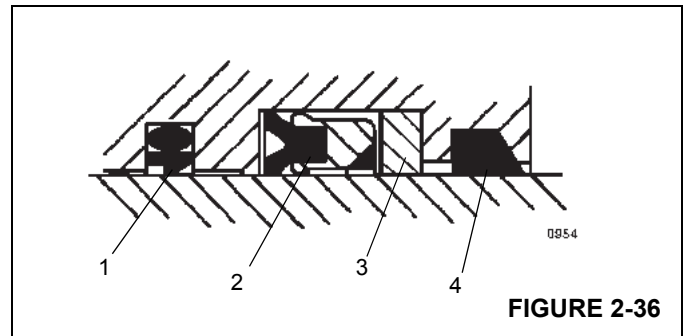

FIGURE 2-36
4. Install the replacement wear rings, buffer seal and deep Z rod seal in the inside of the head. Make sure the buffer seal's step is closer to the deep Z rod seal Figure 2-36. Make sure the deep Z rod seal's rim groove is closer to the buffer seal.